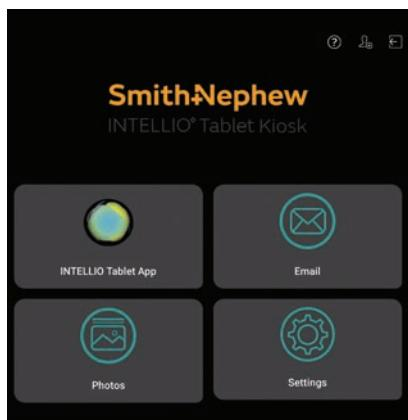

Figure 47. INTELLIO Tablet Home landing page
2. From the INTELLIO[®] Tablet Home landing page, (Figure 47); locate and tap the INTELLIO Tablet App to open.